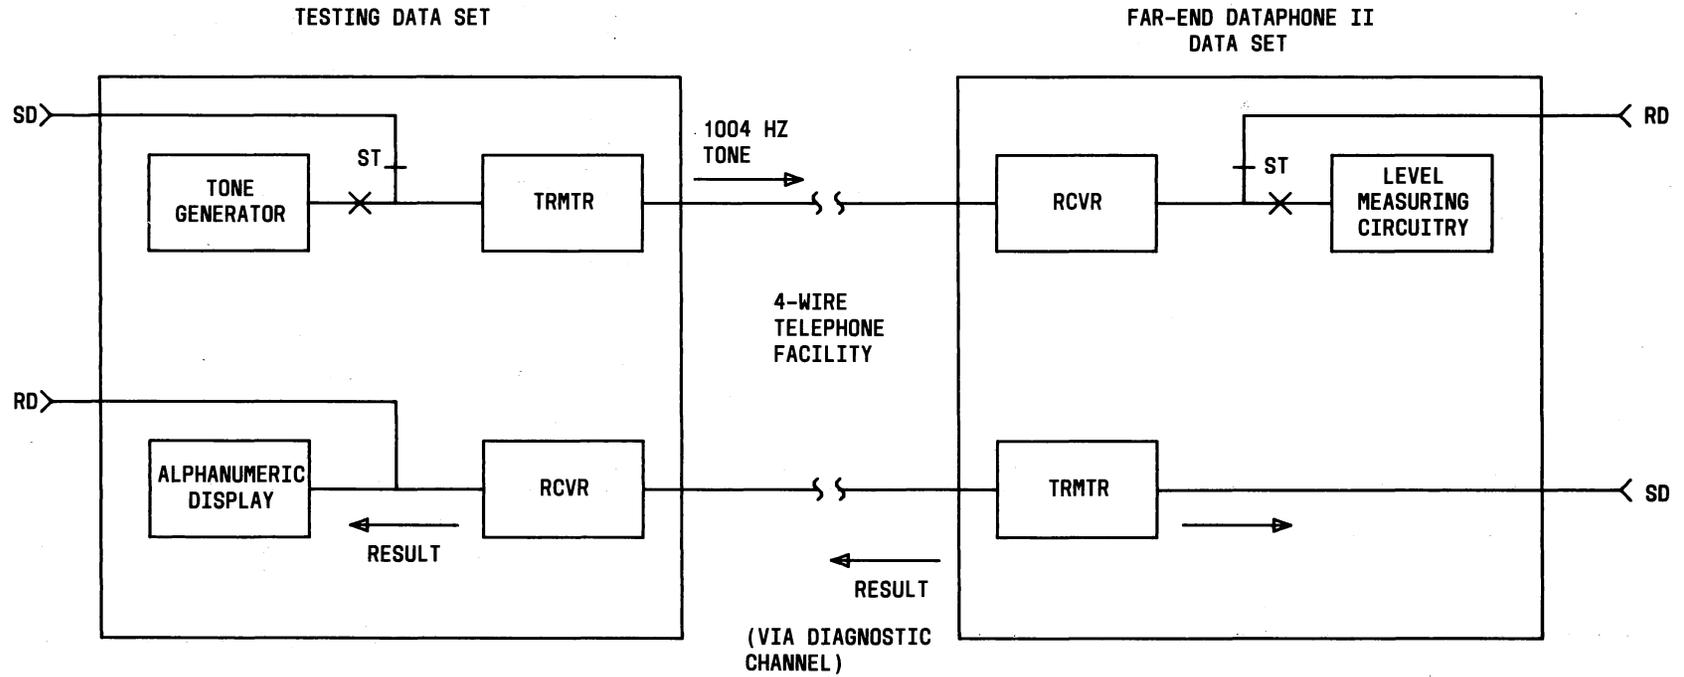

Fig. 22—Transmit Loss Test
**3.69** This test (Fig. 22) can only be performed on data sets in the maintenance mode of operation. The TRMT is designed to measure the